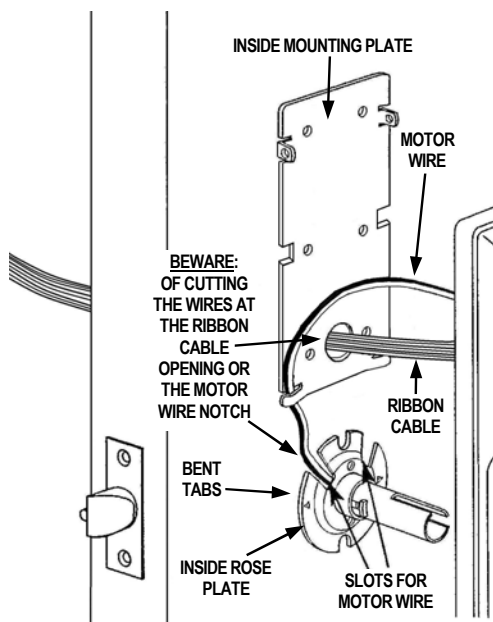

FIG. 11: INSTALL INSIDE TRIM
**IMPORTANT:** See Fig. 11 and 13: The motor wire must come through either slot and be secured by the